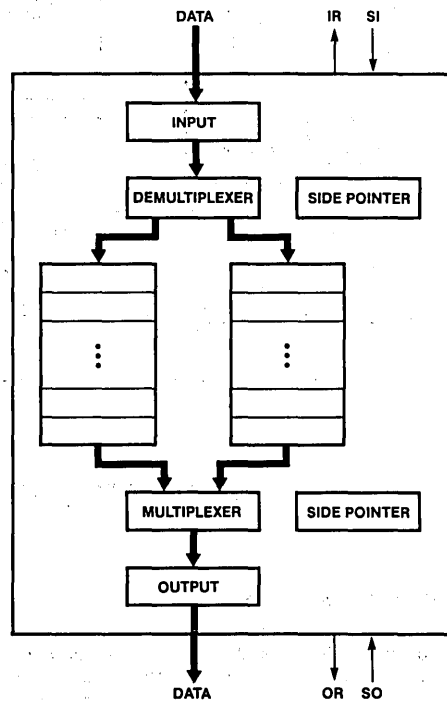

Figure 5. '413 Dual-stack, Hybrid Architecture
- ① Input Ready HIGH indicates space is available and a Shift-In pulse may be applied.
- ② Input Data is loaded into the first word. The Data from the first word is released for "fall-through" to second word.
- ③ Input Ready goes LOW indicating the first word is full.
- ④ Shift-In going LOW allows Input Ready to sense the status of first word. The first word is now empty as indicated by Input Ready HIGH.
- ⑤ If the second word is already full then the data remains at the first word. Since the FIFO is now full Input Ready remains low.
- NOTE: Shift-In pulses applied while Input Ready is LOW will be ignored (See Figure 5).